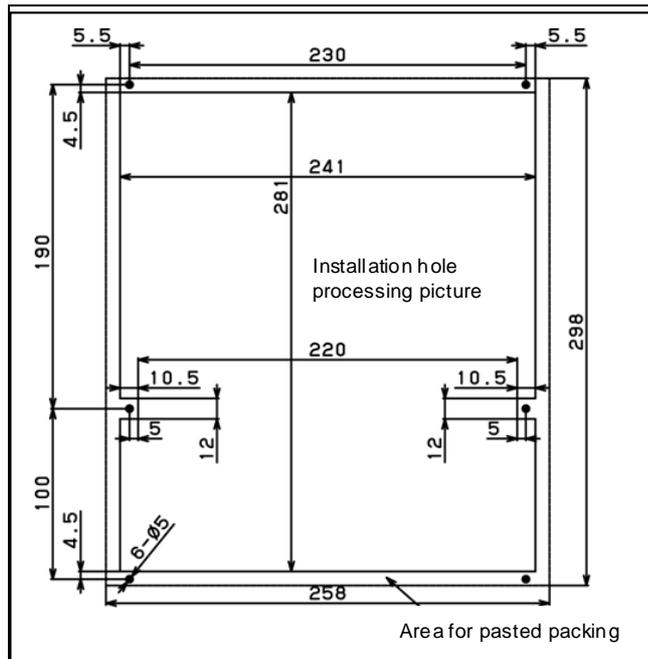

Fig. U2 LCD-mounted type control unit (8.4"color LCD/MDI vertical)
8.4" color LCD/MDI vertical	Fig. U2